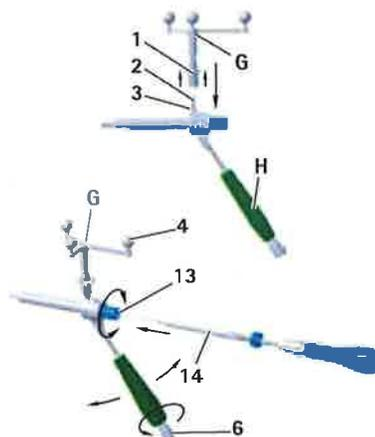

Fig. 8 Mounting the Aesculap star unit on the S4C guide sleeve for smooth-shank screws.
- To ensure the camera has an unrestricted view of the reflective marker spheres, unscrew knob 6 on the S4C handle of the S4C guide sleeve H and turn the Aesculap star unit G to the desired position, see Fig. 8.